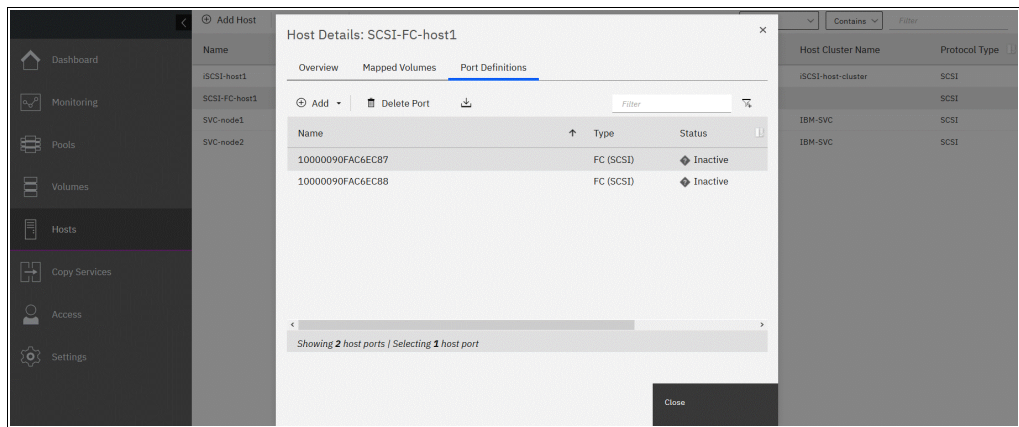

Figure 7-51 Listing port definitions
- In the **Port Definitions** tab, you can see all ports that belong to the host, add ports to it, or remove any assigned ports. An example is shown in Figure 7-51. This tab is also where you can find the NQN of your NVMe host.